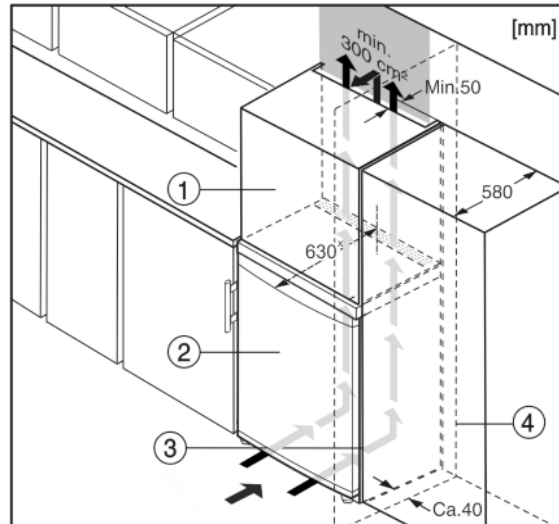

Fig. 10
The appliance can be built into kitchen units. A top cupboard Fig. 10 (2) can be added above the appliance in order to bring the appliance Fig. 10 (1) up to the height of the fitted kitchen units.
When installing with kitchen units (max. depth 580 mm), the appliance can be positioned directly next to the kitchen cabinet Fig. 10 (3). The appliance will project by 34 mm \* at the sides and 50 mm \* in the centre of the appliance in relation to the kitchen cabinet front.\*
If the appliance is installed with the hinges next to a wall Fig. 10 (4), the distance between appliance and wall has to be at least 40 mm. This corresponds to the projection of the handle when the door is open.\*